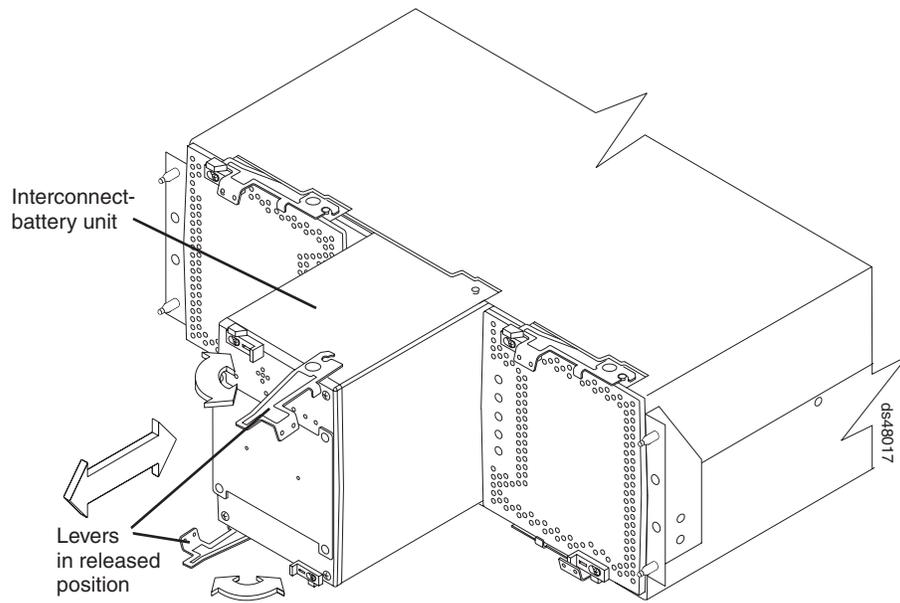

Figure 83. Removing an interconnect-battery unit from the DS4800
7. Unlatch both the top and bottom levers of the interconnect-battery unit and rotate both levers straight out simultaneously to remove the failed interconnect-battery unit. (Figure 83 on page 129 shows the interconnect-battery unit sliding from the storage subsystem chassis.)